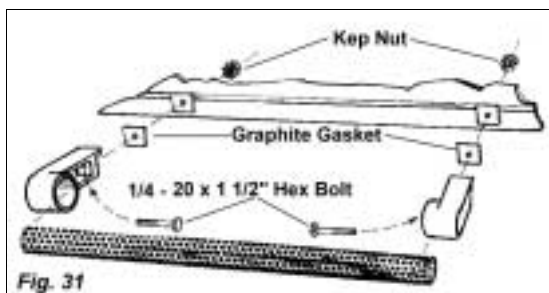

Fig. 31
Step 5: Connect the Handle (Fig. 31)
1. Attach the handle to the grill lid using two $\frac{1}{4}$ - 20 x 1 $\frac{1}{2}$ " Hex bolts with Kep nuts. Graphite Gaskets are positioned between the end caps and grill lid as shown in fig. 31.